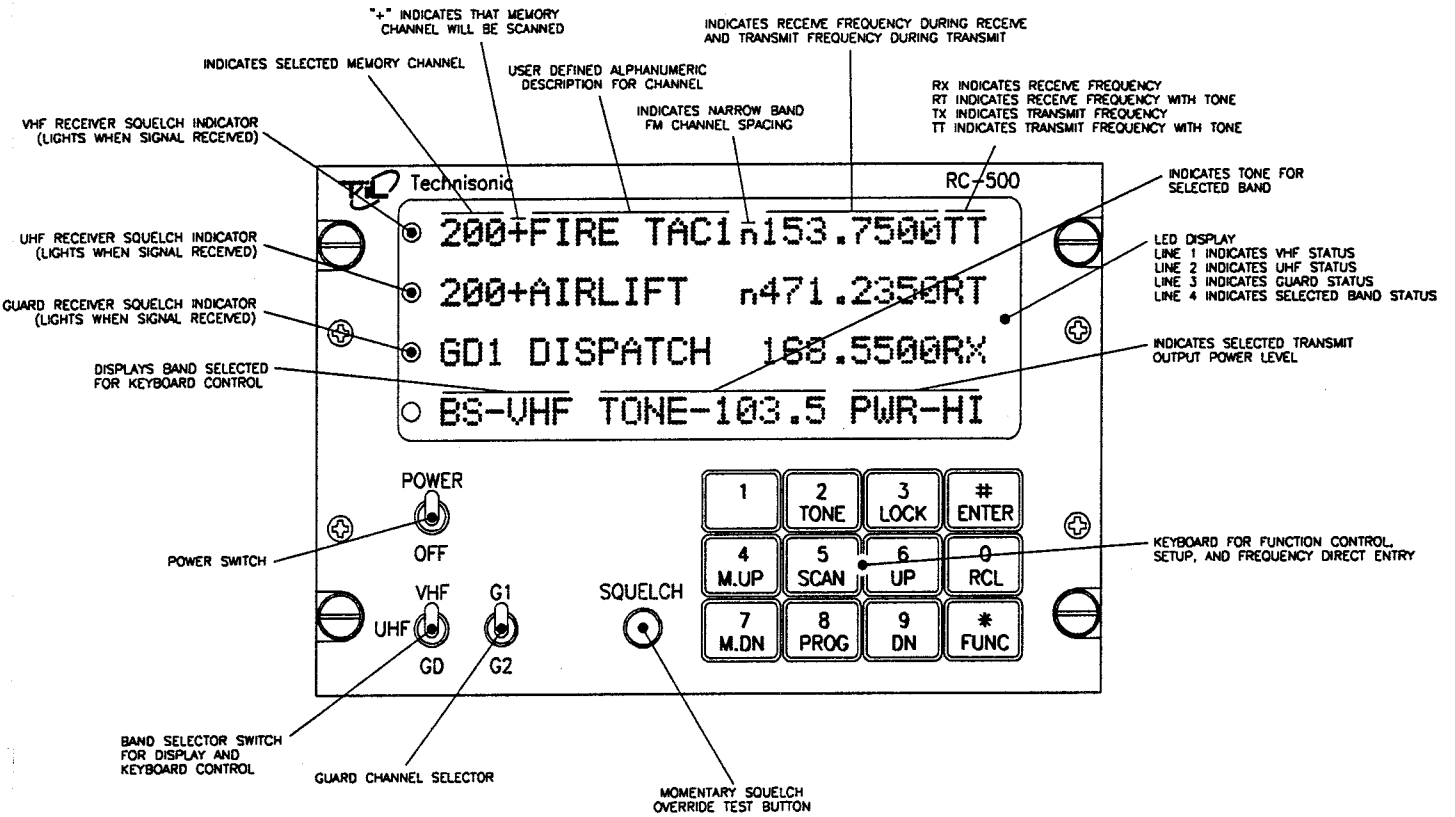

FIGURE 2-1 Model RC-500 Operator's Switches and Controls
2.2 OPERATING INSTRUCTIONS (See Figure 2-1)